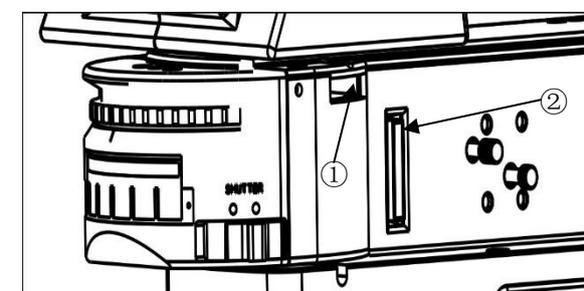

Fig.26
3-21 Use the polarizer and analyzer (Fig.26)
1. The polarizer (Fig.27) with a screen print face forward, insert it into the polarizer slot (Num.(2) Fig.26), and then move the polarizer into the light path.
2. After the dust cover is removed, the analyzer (Fig.27) is pushed into the slot (Num.(1) Fig.26).
3. Turn the polarizer rotor (Num.(3) Fig.26) to find the darkest position in the field of view.